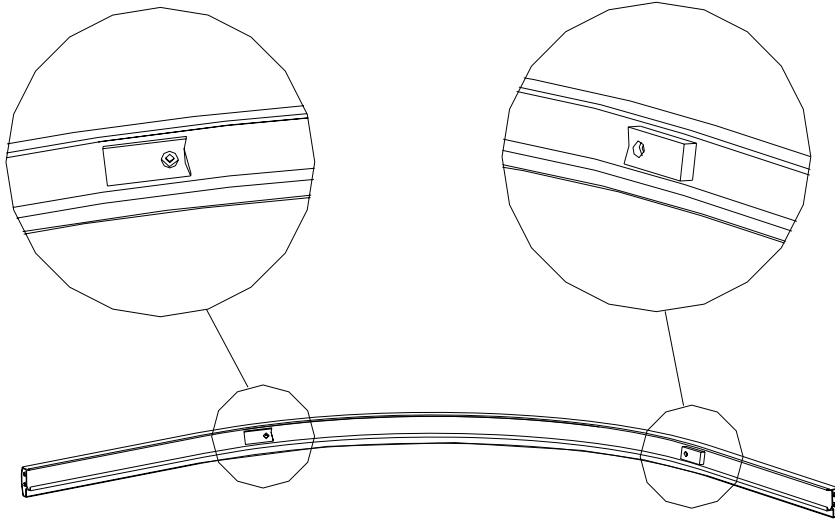
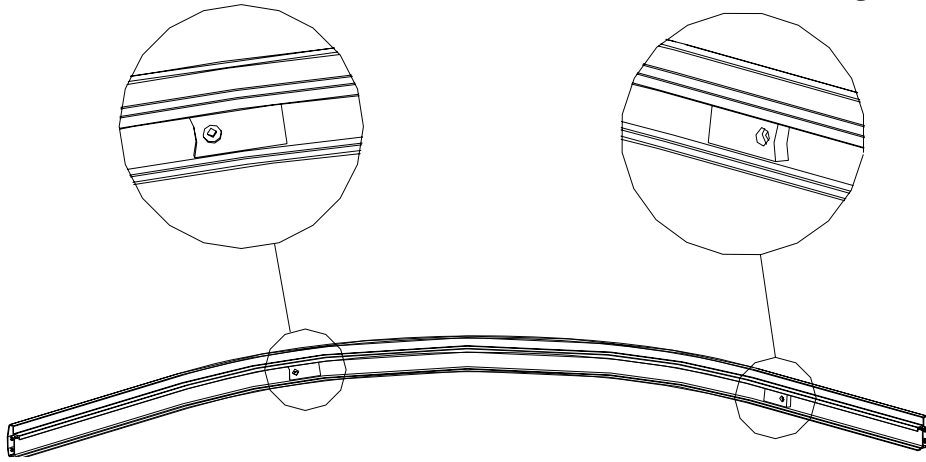
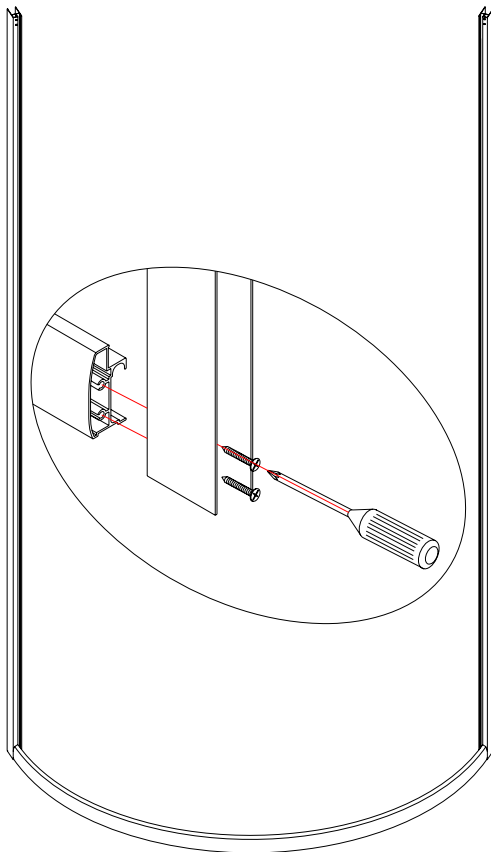

Fig 1
Fig 2
Fig 3
1. Assemble Glass profile (2) with Guide rail (3) using ST4.2x25 round head self tapping screw (fig 3). Note that top Guide rail (fig 1) is different from bottom Guide rail (fig 2) - plastic stopper is in different direction.